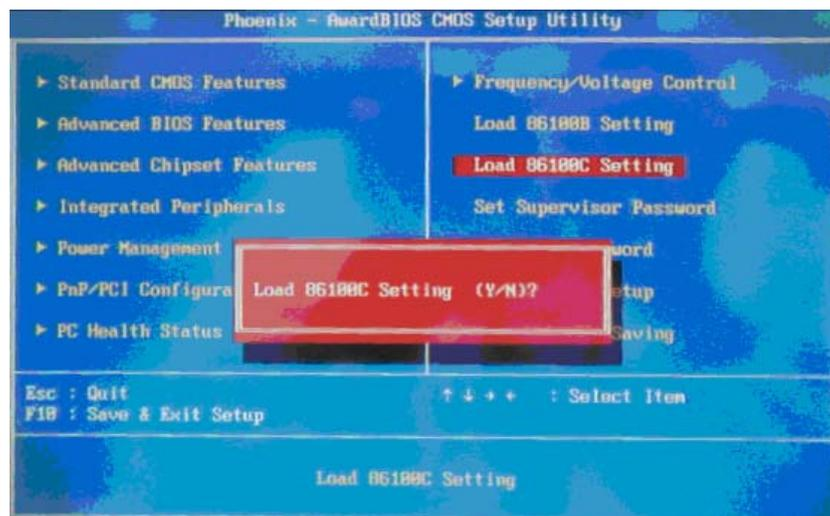

Figure 7-48. Loading the 86100C Settings
- 28 Use the arrow keys to select Load 86100C Setting as shown in Figure 7-48. Select Load 86100B Setting is you are setting up an 86100B instrument. Press the Enter key and then the Y key to begin the load process.